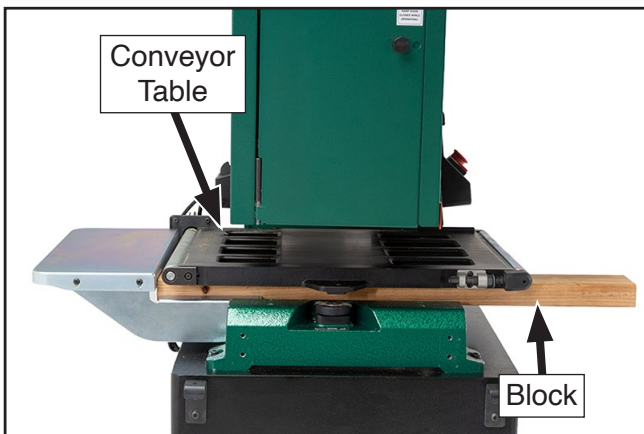

Figure 58. Block placed under conveyor table.
11. Lift open side of conveyor table and place 2" x 4" x 24" block under conveyor table to keep table elevated (see **Figure 58**).